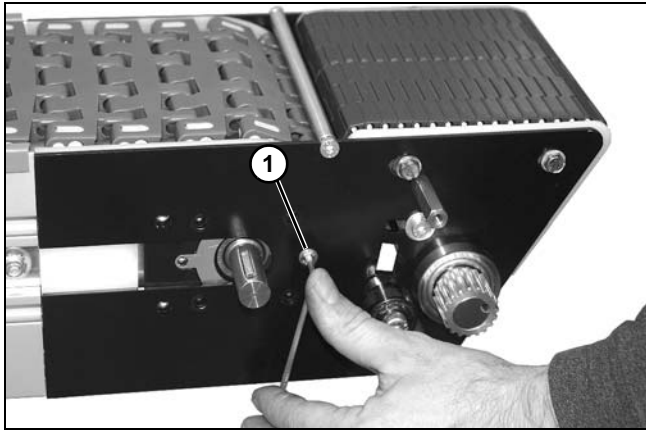

Figure 116
8. Remove socket head screw (**Figure 116, item 1**) from power transfer tail. Repeat on opposite side.